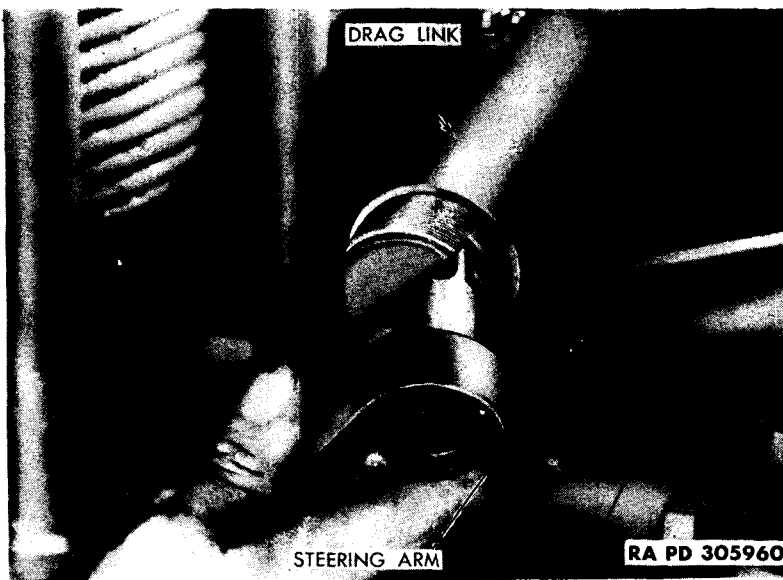

Figure 147—Adjusting Drag Link with Bit 41-B-645
(2) **DRAG LINK.** The drag link assembly which connects Pitman arm and knuckle arm is illustrated in figure 147. Adjustment is made by removing cotter pin and turning adjusting plug in desired direction. To adjust for wear, turn adjusting plug in until tight, then